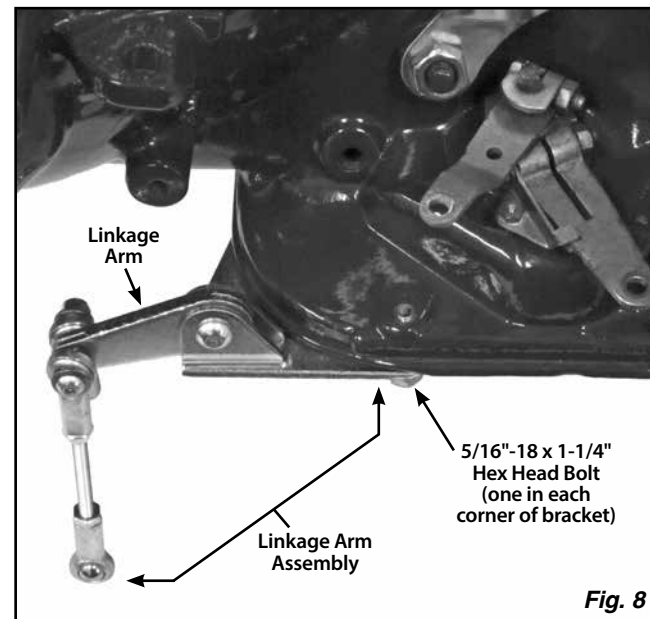

Fig. 8
Step 12: Remove the forward-most bolt from the driver side of the transmission pan, and the bolt that is the furthest toward the driver side on the front of the transmission pan. Remove the masking tape from the 5/16"-18 x 1-1/4" bolts on the provided linkage arm assembly. Install the linkage arm assembly onto the underside of the front driver side corner of the transmission pan. **Fig. 8**